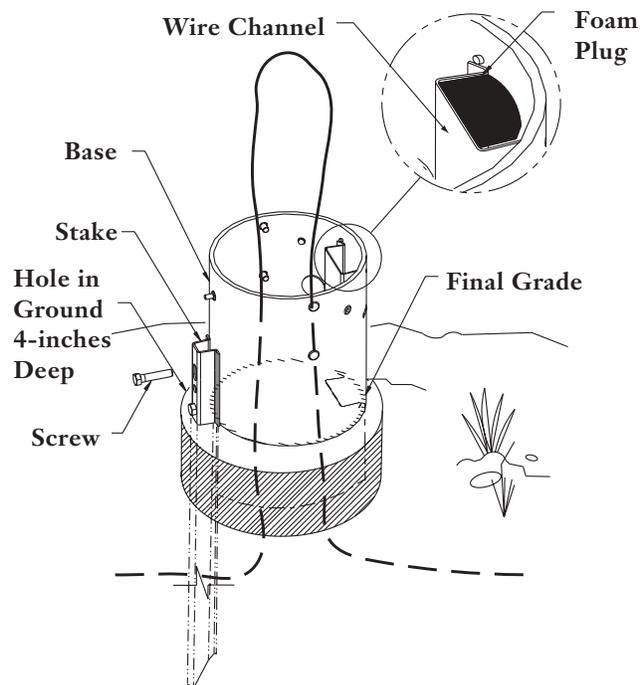

Figure 3
- Step 5** (Optional) Install wire channel in base with top edge near top lip of the base. Insert temporary foam plug into wire channel to prevent gravel intrusion during installation (Figure 3).